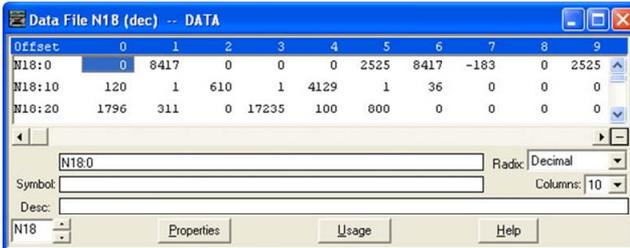

Figure 107: Monitoring the Data Being Read from the Inverter
- a) To view the registers being read from the interface card, double-click the data file N18 under "Data Files" in the controller organizer view. 25 register values starting at register #2050 are being continuously read from the interface card and placed in the 25 sequential offsets of N18 starting at N18:1. Refer to Figure 107. We can see that N18:9 (register 2058 / output frequency / function code M09) has a value of 2525 (25.25Hz), N18:12 (register 2061 / output voltage / function code M12) has a value of 610 (61.0V), etc.